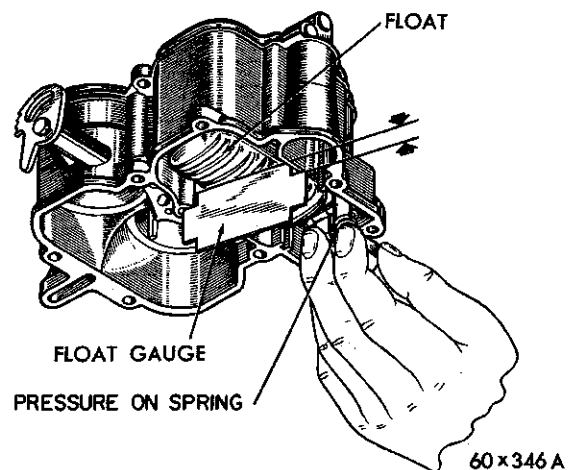

Fig. 15—Measuring the Float Setting
(1) Invert the main body so that the weight of the floats only is forcing the needle against the seat. **Be sure hinge pin does not drop out of the float hinge.** Hold down with the fulcrum pin spring.
(2) Using Tool 73725 or a "T" scale, measure the float level, as shown in Figure 15. There should be 5/32 inch from the surface of the fuel bowl to the crown of the float at the center.